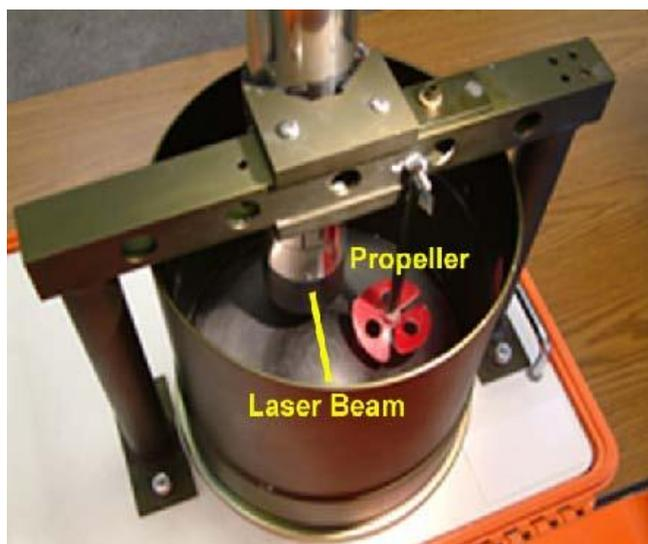

Figure 7-4. OBS-5+ in suspender tub
- 6) Position the OBS-5+ so that it produces the minimum FD signal in clear water (Figure 7-4).